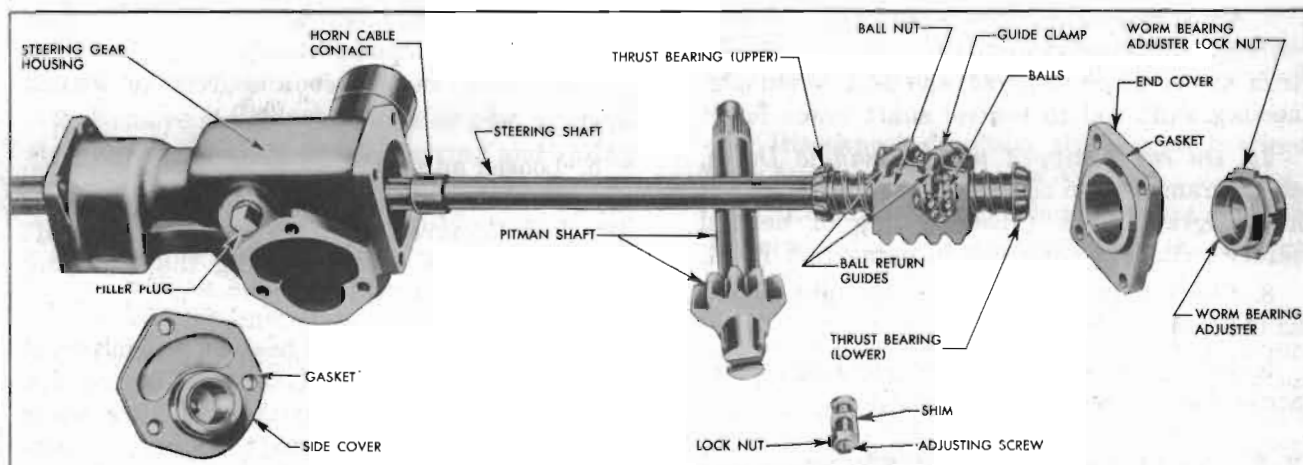

Figure 7-13—Steering Gear Disassembled
5. Loosen adjusting screw lock nut, then remove housing side cover with pitman shaft attached. Remove gasket. Separate pitman shaft from side cover by unscrewing the adjusting screw. See figure 7-13.